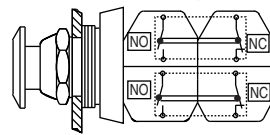

Fig. 2B
- Use an E-Stop button conforming to EN 418. It must have (2) Normally Closed (N.C.) contact blocks. The contact blocks must conform to EN 60947-5-1 positive-opening operation.
- Use a start/reset momentary pushbutton with a single contact block with (2) circuits (1) Normally Open (N.O.) and (1) N.C. If two separate blocks are used, the N.O. must be assembled to the operator first and the N.C. assembled on it, so that if the N.O. welds, the N.C. will be held open and a fault detected (See Fig. 2B).
This device conforms to the requirements of EN574 IIIC of less than 0.5 sec. of synchronous actions of two buttons. **Use only pushbuttons with two direct-opening contact blocks; each contact block must have a N.O. and N.C. If four separate blocks are used, the N.O. must be assembled to the operator first, and the N.C. assembled onto it, so that if the N.O. welds, the N.C. will be held open and a fault detected (See Fig. 2B). The two-hand buttons and safety relay must be installed in the same enclosure (IP54 minimum). Wires leading from the two-hand buttons to the relay must be separated to prevent undetected shorts between lines.**